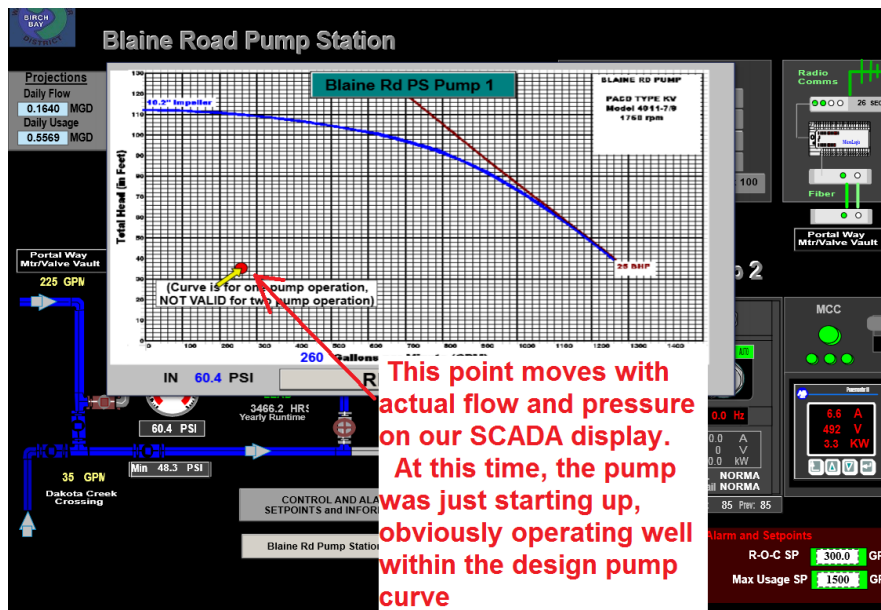

Figure 2 - SCADA screen with pump plotted real time against design curve
- Pump alarming/notification** – Similar to monitoring for maintenance and repairs, flow meters can be used as “proof” that the pumps are in operation and pumping. Taking it a bit further, alarms can be set at values at about 80% of expected flow rates, including those sites with variable speed pumps. When the alarm sounds, we know that we have an issue that requires immediate attention. Using the PLC and SCADA system, we can also plot the flow data in a real-time fashion on the actual pump curve on the computer screen. An example of one such site (a water pump station) is provided in Figure 2. The operator can click on the pump on the screen, and a pump curve pops up with the current point of operation (flow/pressure). It is very easy to identify exactly how the pump is performing against its design parameters.